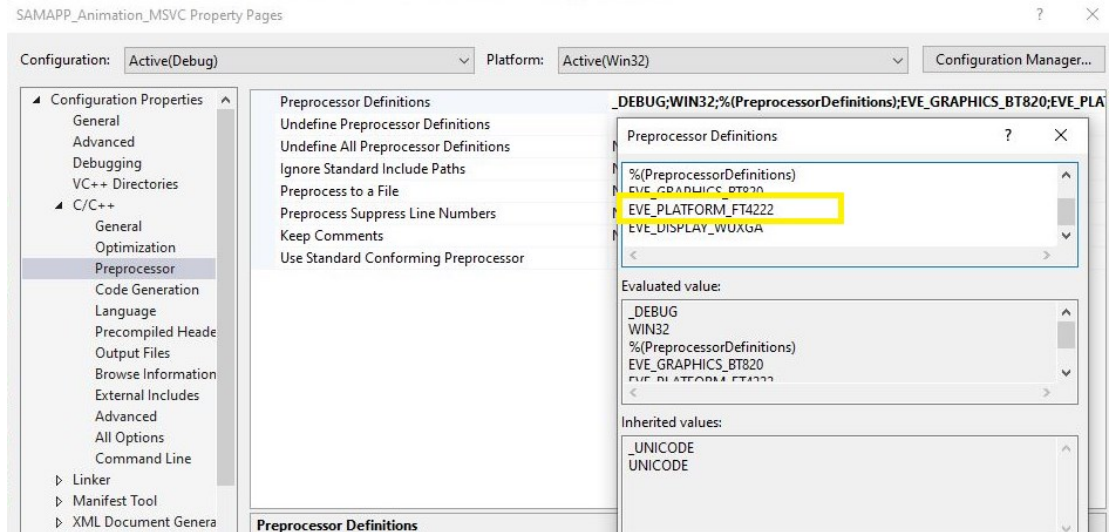

Figure 14 - Communication Interface set to FT4222H
4. Figure 14 shows an example of the communication interface set to FT4222H.